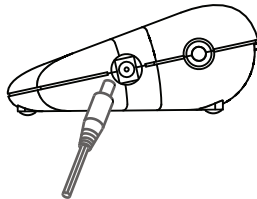

Figure 1. Connecting Adapter Plug to Indicator.
- Connect the round plug of the AC Adapter to the power input jack at the side of the Indicator housing. See Figure 1.